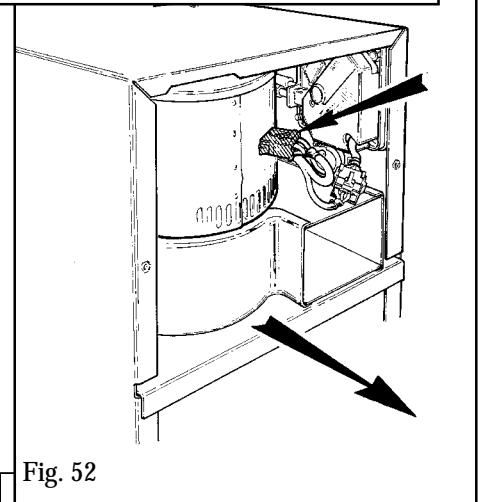

Fig. 52
- Withdraw the fan unit from the fan box taking care not to snag or damage the wiring loom. (See figure 52).